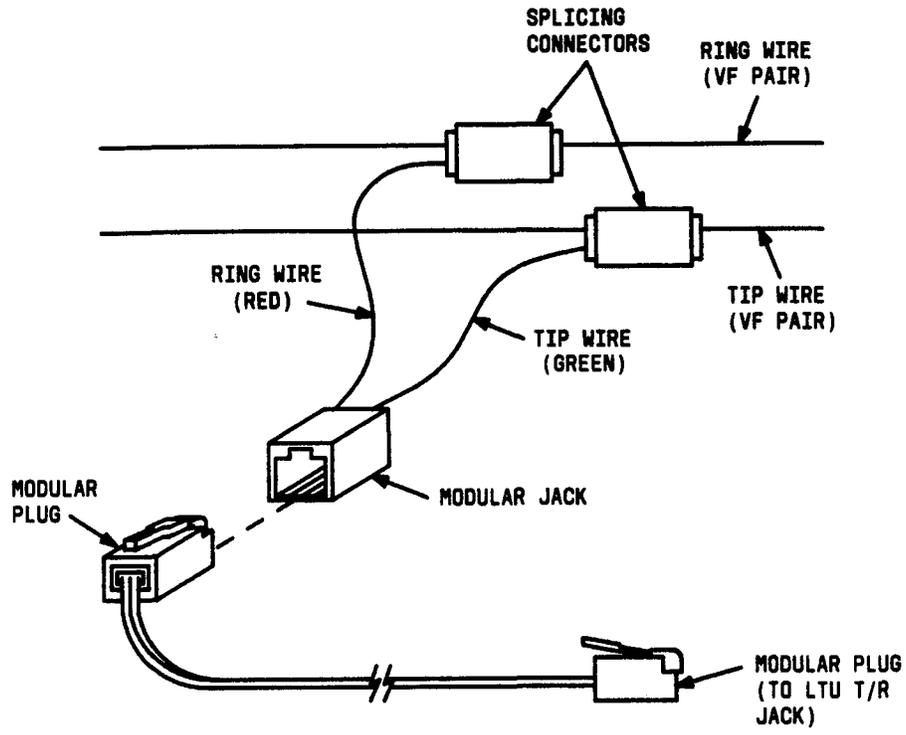

Figure 4—Connection of 2-conductor cable to VF wire pair
4.	Refer to Figure 4 and insert the TIP lead of the specified VF pair and the TIP (green) wire from the modular jack into the splicing connector supplied.